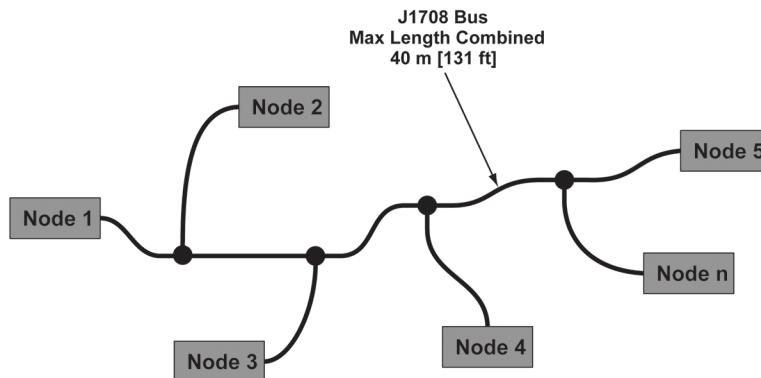

Figure 13-4: Example of J1708 Topology
- The topology of J1708 is described as “free”, compared to the linear bus topology of J1939. (see Figure 13-4) The terms backbone, stubs, shield, and termination resistors do not apply to J1708.